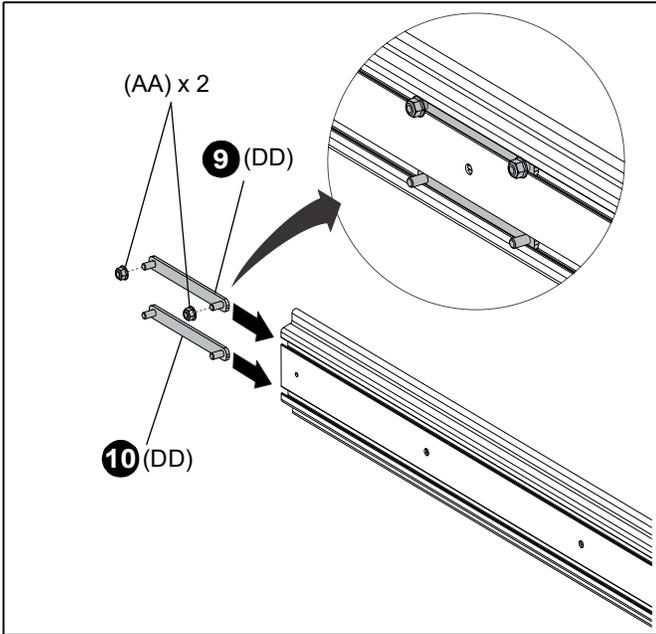

Figure 12
- Slide studs on lower T-slot studs (DD) into lower slots on array head (FF) while bringing mounting rail against array head. (See Figure 12)